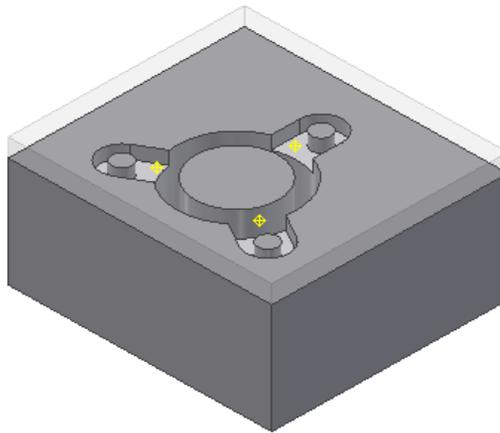

Figure 19-58 The core and cavity generated
2. Choose the **OK** button from the dialog box; the core is generated, as shown in Figure 19-58.